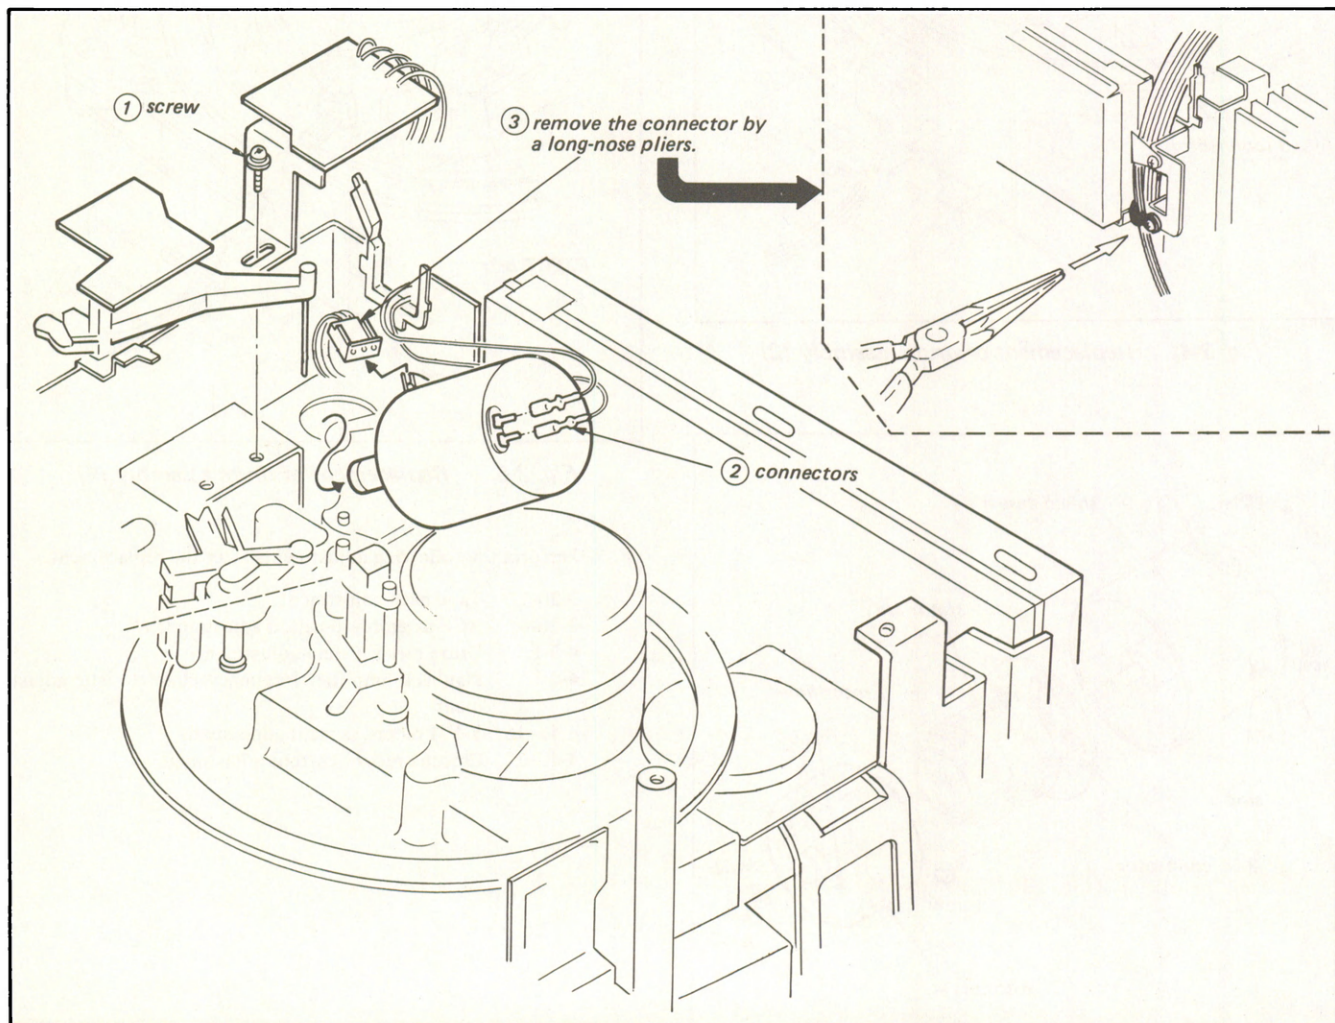

Fig. 3-8. Replacement of DC motor (2)
3. Take out the DC motor, following Steps ① to ③ shown in Fig. 3-8.